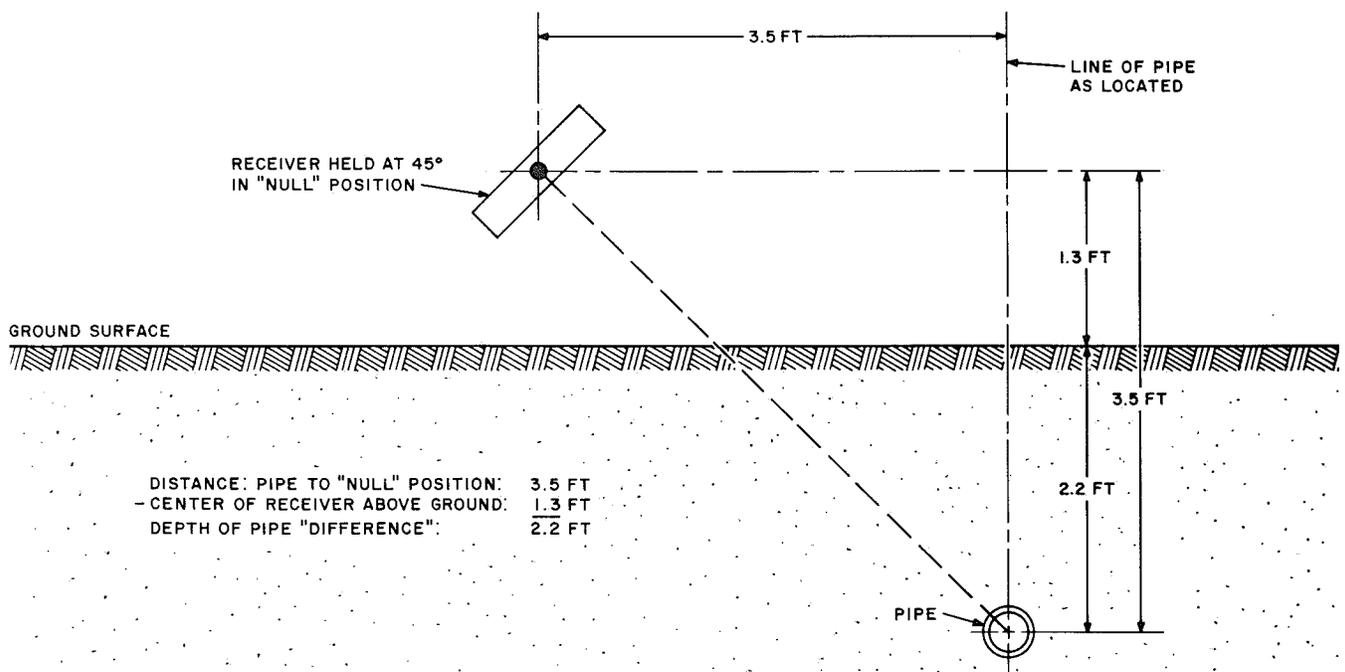

Fig. 7—Determination of Conductor Depth
6.02 After the center of a conductor has been located and marked, hold the receiver at a 45 degree angle parallel to line of conductor and move it away from the conductor at right angles to the conductor line until a new null point or minimum signal is obtained (Fig. 7).
**6.03** The distance from the center line of the conductor, as previously determined, to the 45 degree null position is the same as the distance from the horizontal null position to the center of the conductor. This is illustrated in Fig. 7. It will be noted that a 45 degree right triangle has been formed in this operation. To prevent air coupling, the transmitter and receiver should be at least 35 feet apart during this operation.